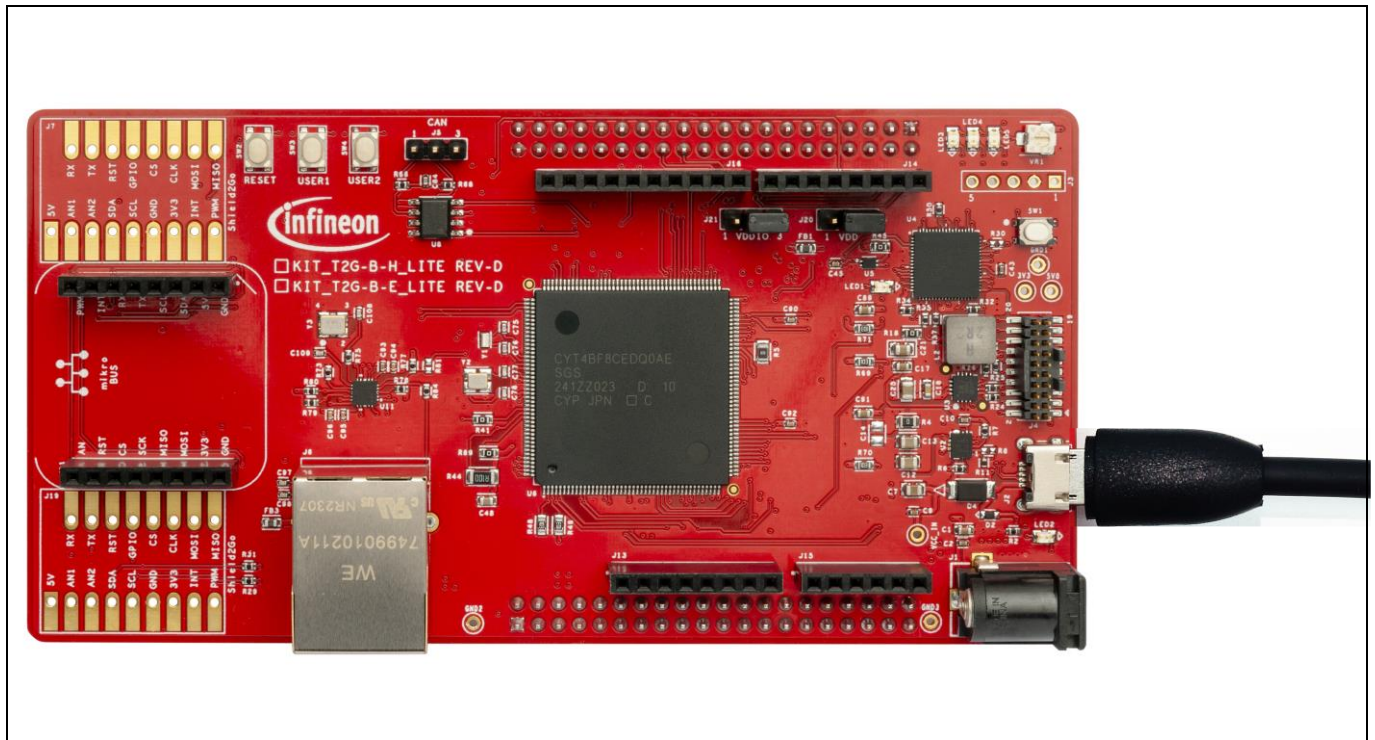

Figure 7 Connect USB cable to USB connector on the board
1. Connect the board to the PC using the provided USB cable through the KitProg3 USB connector, as shown in Figure 7. It enumerates as a USB Composite Device if you are connecting it to your PC for the first time.